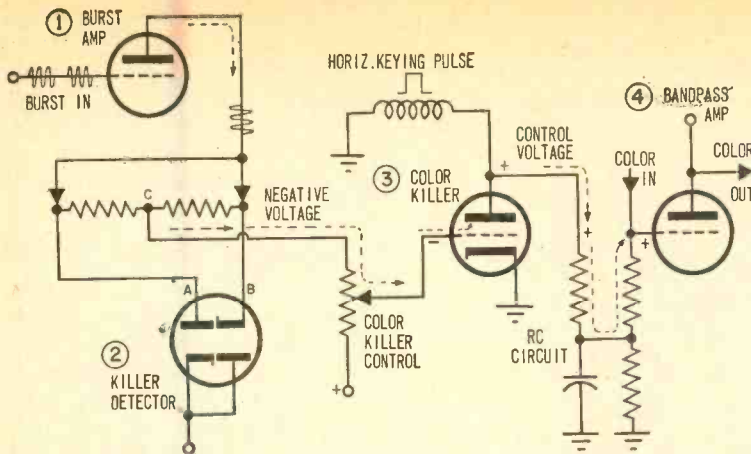

Fig. 3. Simplified schematic of typical killer circuit. Gating of killer stage by horizontal keying pulse makes circuit operation virtually immune to noise.
**Tracing the Schematic.** A simplified diagram of the killer circuitry in many of today's color sets is in Fig. 3. We can begin at the burst amp (1) shown receiving the burst signal. After amplification, the burst is applied across the killer detector (2). This stage is a pair of diodes such as might be found in the detector of an FM receiver and the function is similar: it converts a radio signal (here, 3.58 MHz) into DC by acting as a rectifier. Burst voltage is applied across the dual-diode tube, at plate A and cathode B. Resultant current flow through the stage creates a negative voltage between the load resistors (see point C).